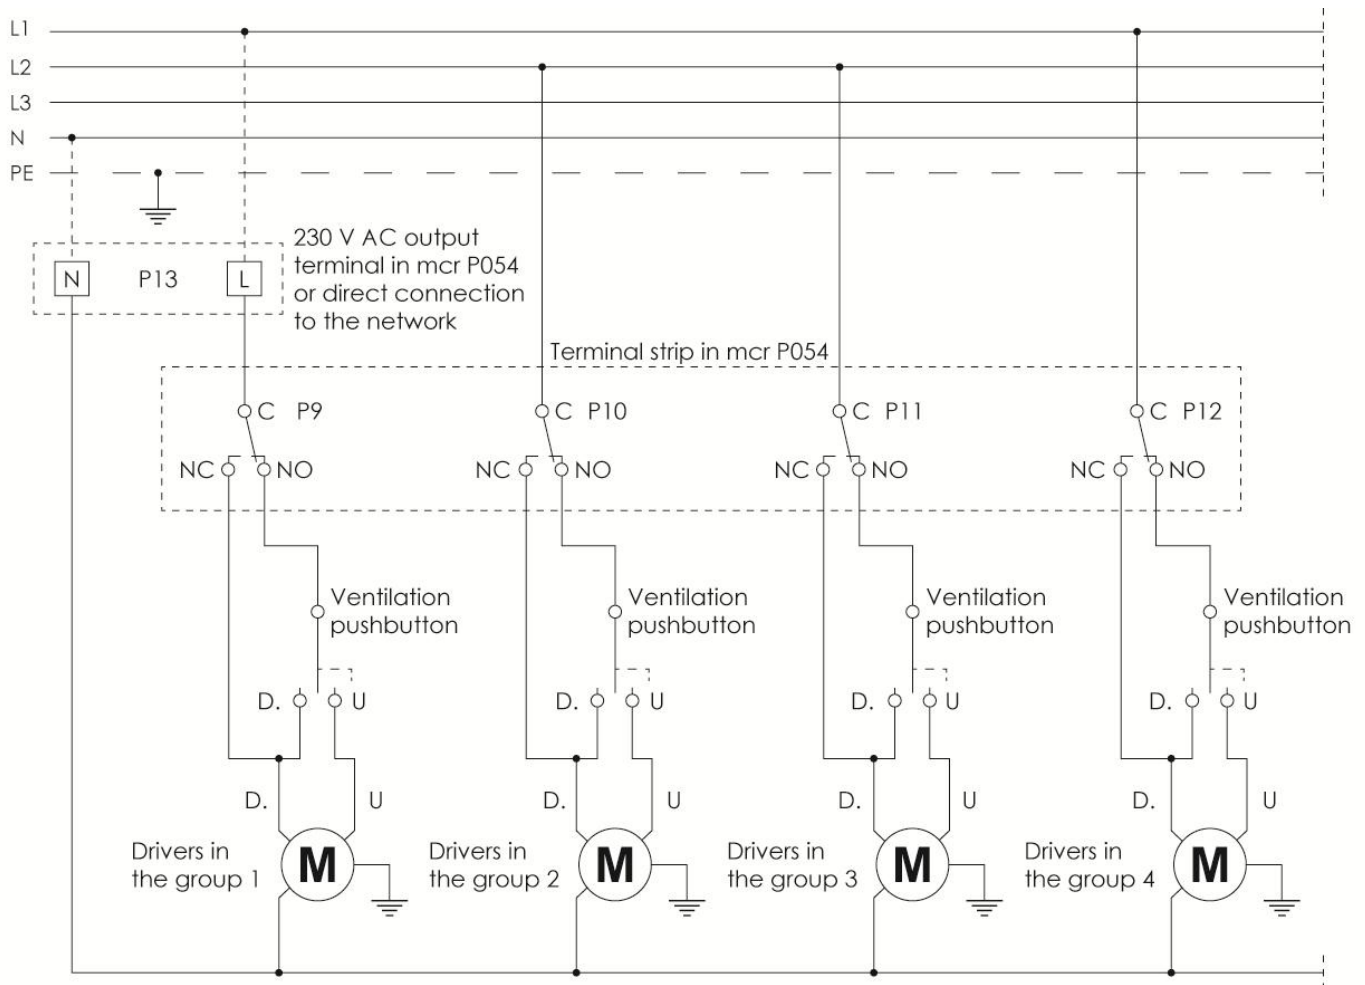

Fig. 3 Diagram for connection of 230 V AC ventilation actuators to the mcr P054 weather monitoring unit.
1. When connecting ventilation actuators from different manufacturers to the mcr P054 control panel, it is recommended to place them in separate groups (see the diagram in Fig. 3). **GRASL Exxx-230** actuators and **Timotion VN1** actuators **must be connected to separate control panel outputs** (terminals: P9, P10, P11, P12); they must not operate on a shared circuit.